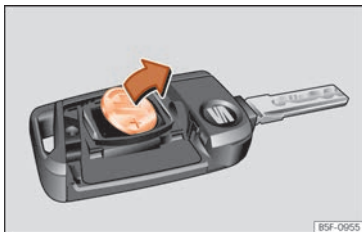

Fig. 120 Vehicle key: removing the battery.
- Extract the battery from the compartment using a suitable thin object »» Fig. 120.
- Place the new battery in the compartment as shown »» Fig. 120, pressing in the opposite direction to that shown by the arrow »» ⚠.